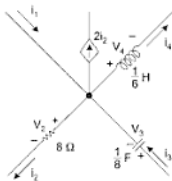

Fig. A1-1
- (a) Fig. A1-1 shows one node of an electric circuit. Find V_4 using KCL.